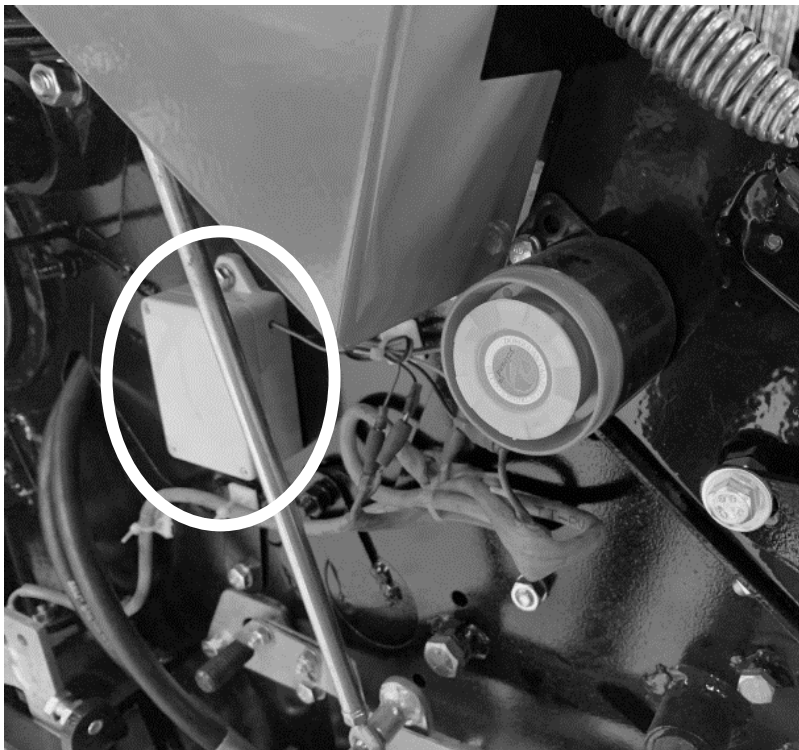
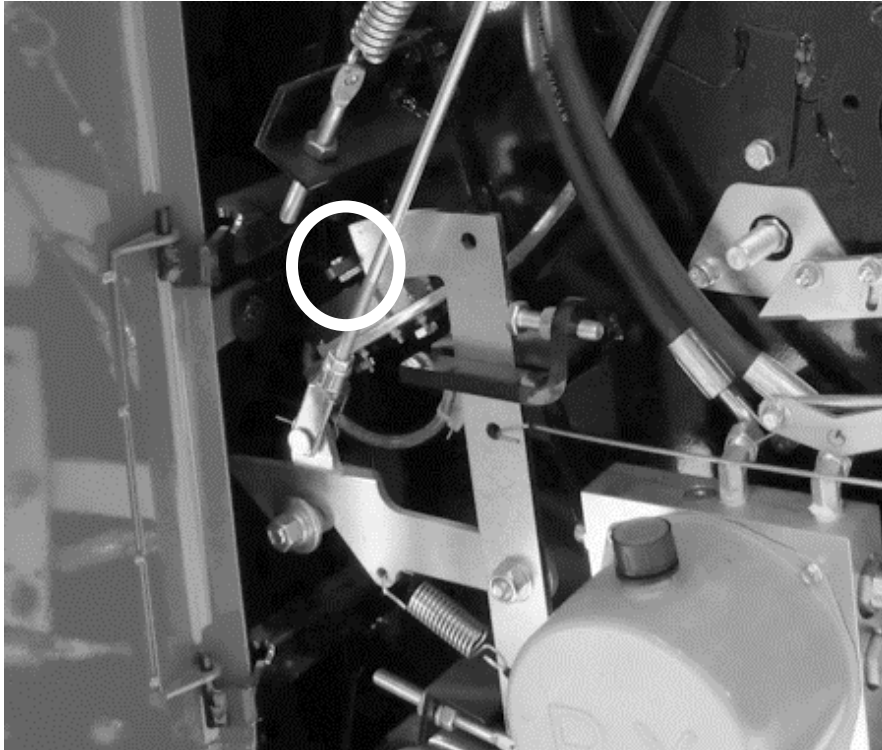

Figure 1 (right side of baler, behind door)
Figure 2 (right side of baler, behind door)
- The machine comes with a 9V battery that powers the bale chamber full alarm. The battery is inside a black battery box that is enclosed in a grey outer weather-proofing box as shown in Figure 1. The battery box has a switch that is **turned off by default**. Before using the machine, be sure to open the grey box, turn on the switch, and test that the horn is getting power. You can do this by depressing the sensor switch shown in Figure 2.